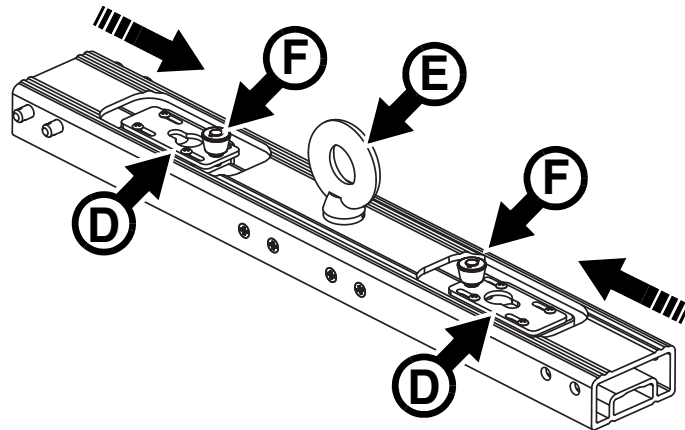

Figure 12: Closing locking plates in Single Header
5. See Figure 12. While supporting the panel, slide the locking plates **D** in the header *towards* the suspension eye **E** so that the locking plates engage in the grooves in the vertical connection posts **A**. Make sure that the locking plate knobs **F** click into the locked position so that the locking plates are no longer able to slide from side to side. Check that both locking plates are now latched onto the vertical connection posts.